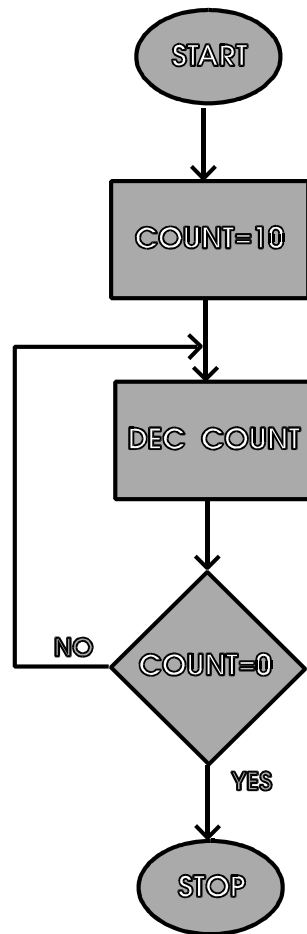

FIG. 4.1
22. Modify the flowchart of Fig. 4.1 in order to have the program count to 10 and repeat indefinitely.